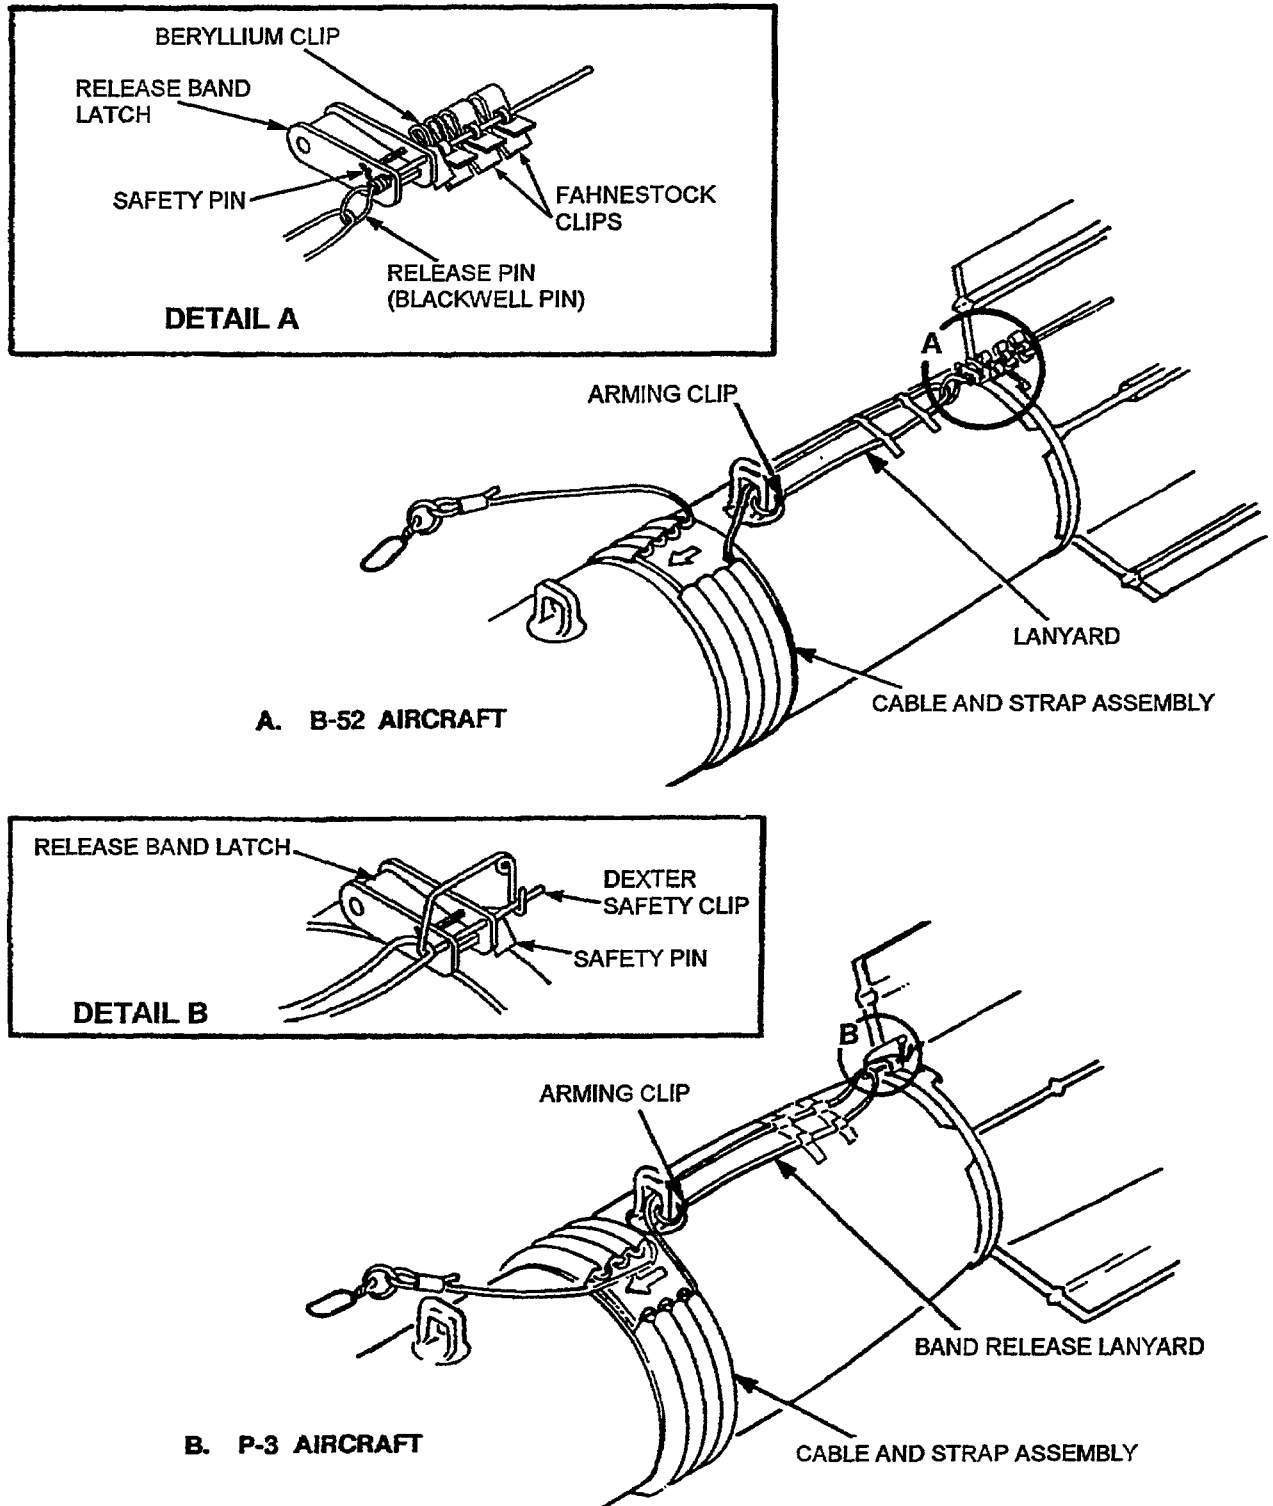
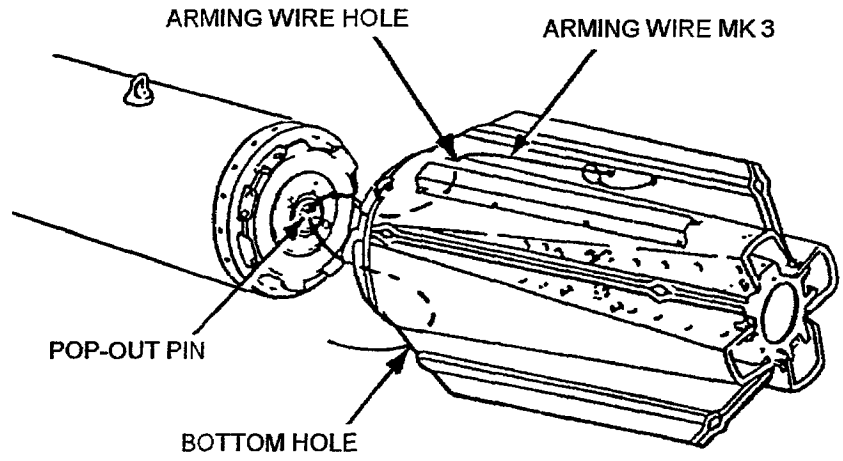

Figure 5-4A. Cable and Strap Assembly Removal
Figure 5-4B. Arming Wire and Fin MAU-91A/B Removal
- b. Internal Carriage Only: Remove cable and strap assembly as follows (Figure 5-4A):
- (1) Remove tape securing lanyard to bomb. Cut tie-down strap securing arming clip to lanyard.
- (2) Remove arming clip from lanyard.
- (3) B-52 Aircraft Rigging Only: Pull lanyard through aft suspension lug, through Blackwell pin, and again through aft suspension lug. Remove Fahnestock and beryllium clips from Blackwell pin and remove pin from release band latch.
- (4) P-3 Aircraft Rigging Only: Pull lanyard through aft suspension lug, through Dexter clip, and again through aft suspension lug. Remove Dexter clip from release band latch.
- c. Cut Arming Wire Mk 3 flush with top and bottom of fin and discard arming wire (Figure 5-4B).